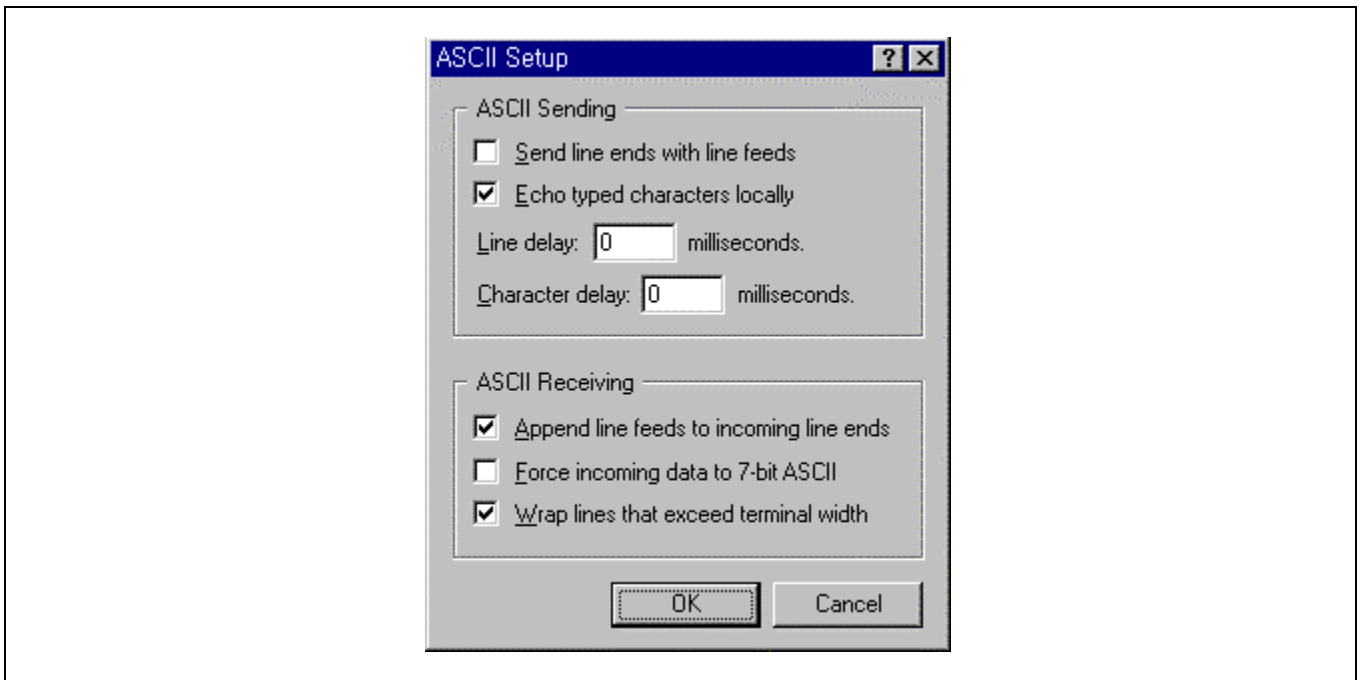

Figure 2-5. ASCII Setup Menu
7. Check ASCII Setup menus and set (Figure 2-5)